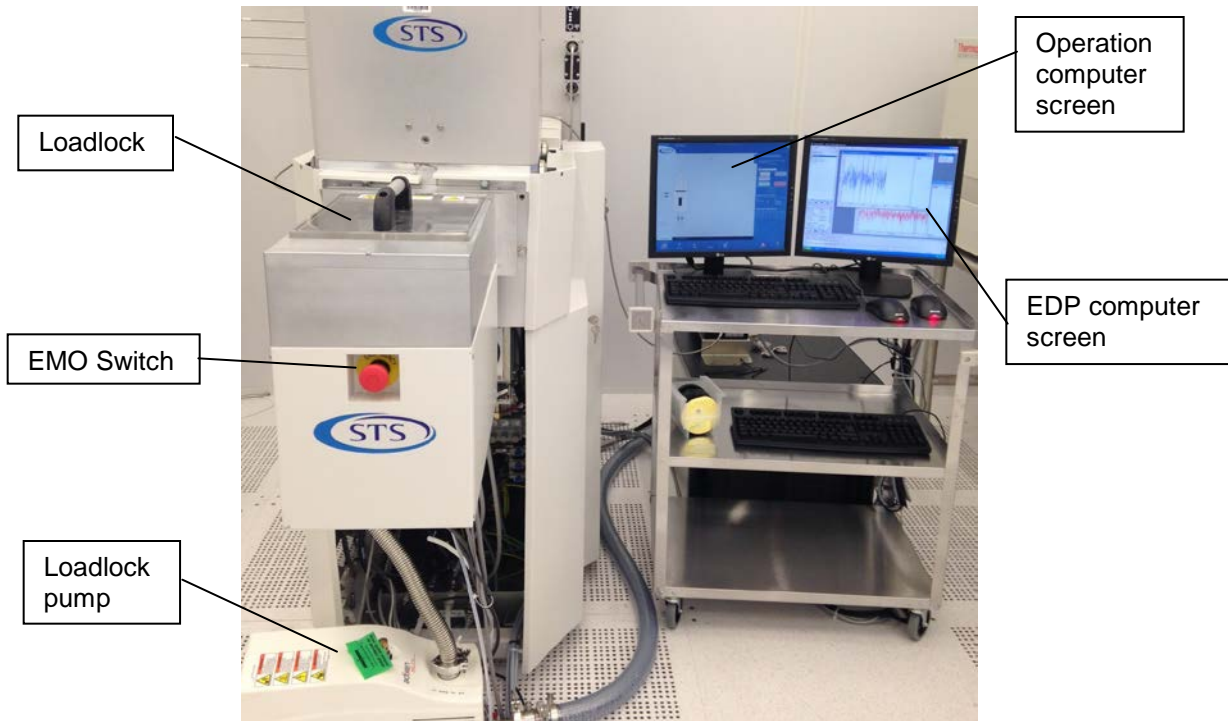

Figure 1: STS LpX CVD
- d) Press EMO button (Figure 1) if there is an immediate danger to personnel or the equipment and inform the staff.